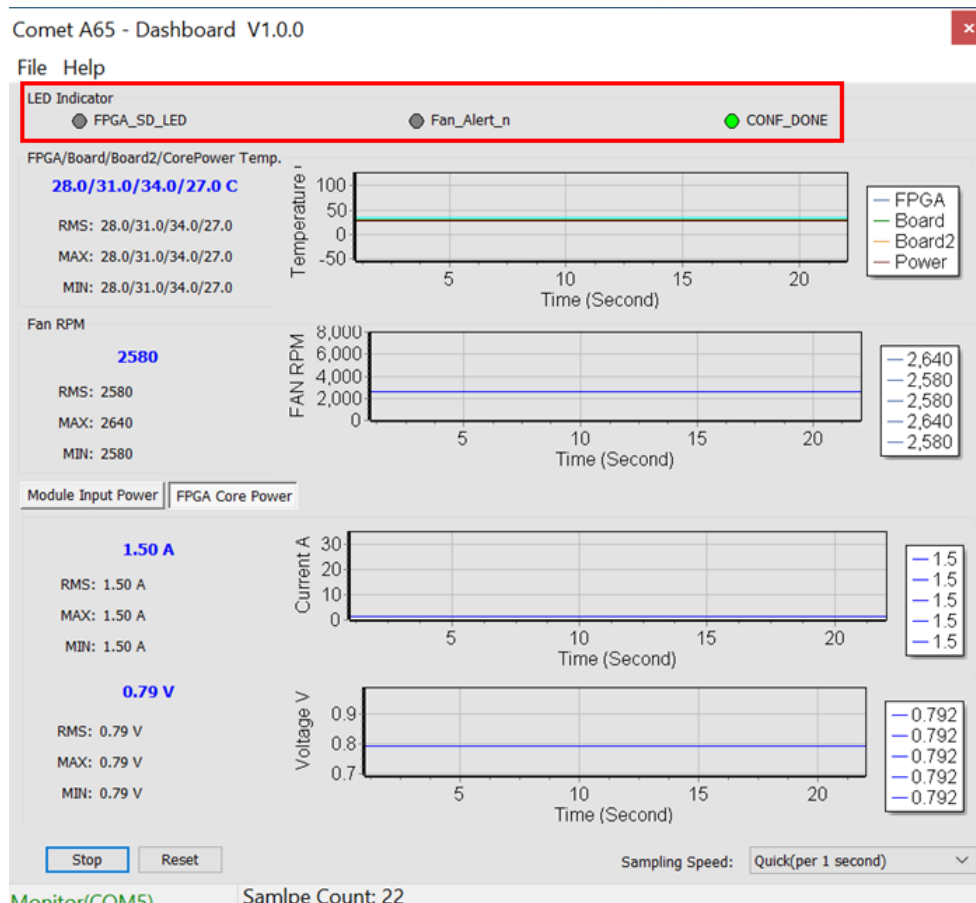

Figure 3-8 FPGA Status section
- **CONF\_DONE:** As shown in Figure 3-8, once you press the “Start” button, it will show the status LED number on the Comet A65 SOM Evaluation Kit. Note that “CONF\_DONE” stands for FPGA configure done status. There is no LED on Comet A65 SOM Evaluation Kit to display FPGA configure status. When this status is shown in green on the GUI, it means that FPGA configuration has been completed.